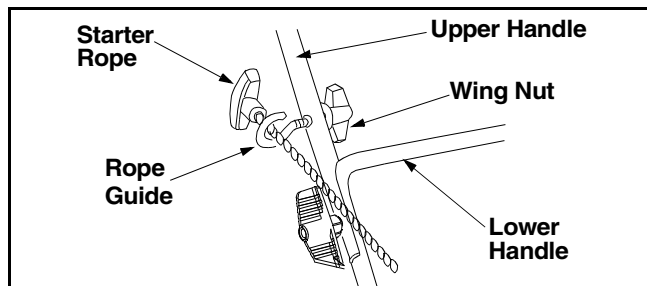

Figure 6
- The rope guide is attached to the right side of upper handle. Loosen the wing nut which secures the rope guide. See Figure 6.